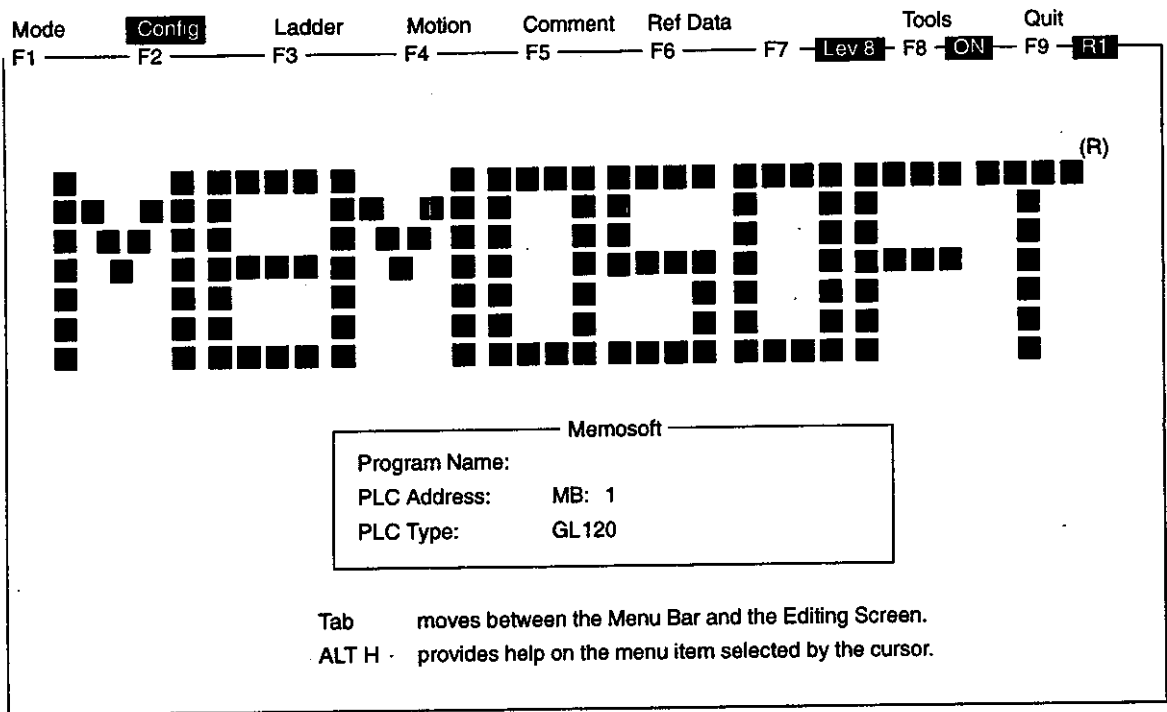

Figure 4.2 System Configuration
- c) From the configuration menu ("Config") select **Map** and then **I/O Map**. (*Figure 4.2, 4.3*)